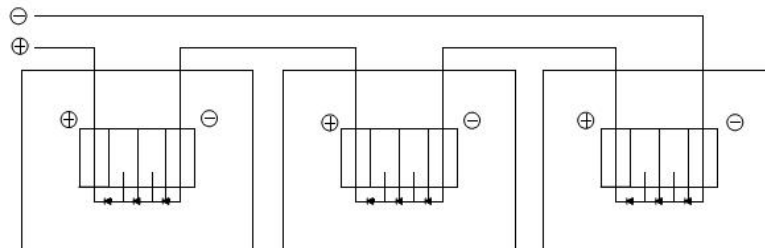
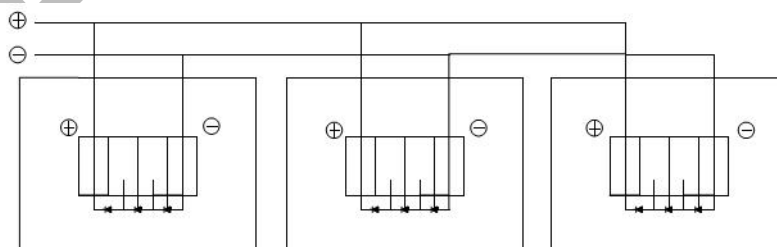

图 11 串联增加电压
图 12 并联增加电流
- 2) 为了确保系统的正常运行, 在将组件连接到电池或者其他组件时, 请注意观察电缆线的极性(图 11 和 12)。如果连接不正确, 旁路二极管可能会损坏。
In order to ensure the normal operation of the system, make sure the modules polarity is observed ( Fig.11 and Fig.12 ) when the modules are connected to the battery or other modules. Reverse polarity might cause damage to the protective diodes.
- 4) 组件串联连接电压累加。从一块组件的正极接线端连接到下一块组件的负极接线端。图 11 显示的是组件串联连接。
PV modules can be wired in series to increase voltage. Connect wires from the positive terminal of one module to the negative terminal of the next module. Fig.11 shows modules connected in series.
- 5) 组件并联连接电流累加。从一块组件的正极接线端连接到下一块组件的正极接线端。图 12 显示的是组件并联连接。
Connect PV modules in parallel to increase current. Connect wires from the positive terminal of one module to the positive terminal on the next module. Fig.12 shows modules connected in parallel.
Fig. 11 in series to increase voltage
Fig. 12 in parallel to increase current